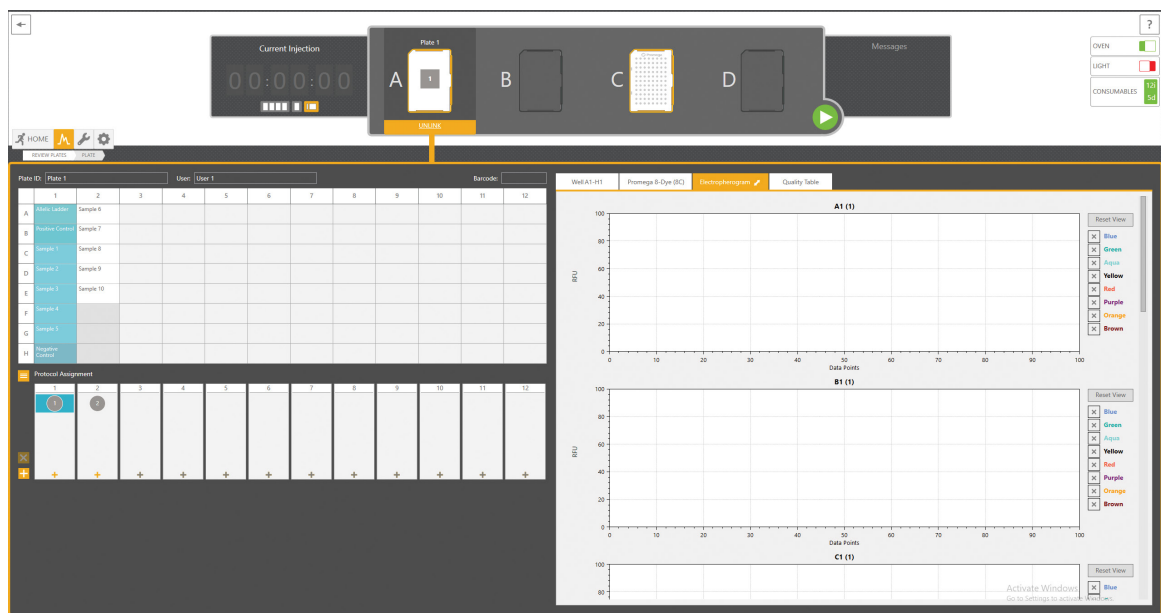

Figure 18. Linked plate in the Spectrum Control Software.
2. Open the draft plate record, then select **Link** in the Plate Position indicator under the position where the plate was placed. Once the plate is successfully linked, the text under the position will change status to **Unlink** and the Plate ID will appear above the position (Figure 18).